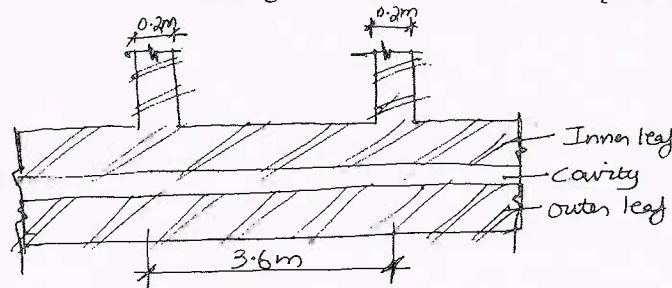

Fig.Q7
- 7 Design an interior cavity wall of a three storeyed building ceiling height of each storey being 3m. The wall is stiffened by intersecting walls 200 mm thick at 3.6 m c/c. Take loading from roof = 16 kN/m and loading from floor = 12.5 kN/m. [Refer Fig.Q7]